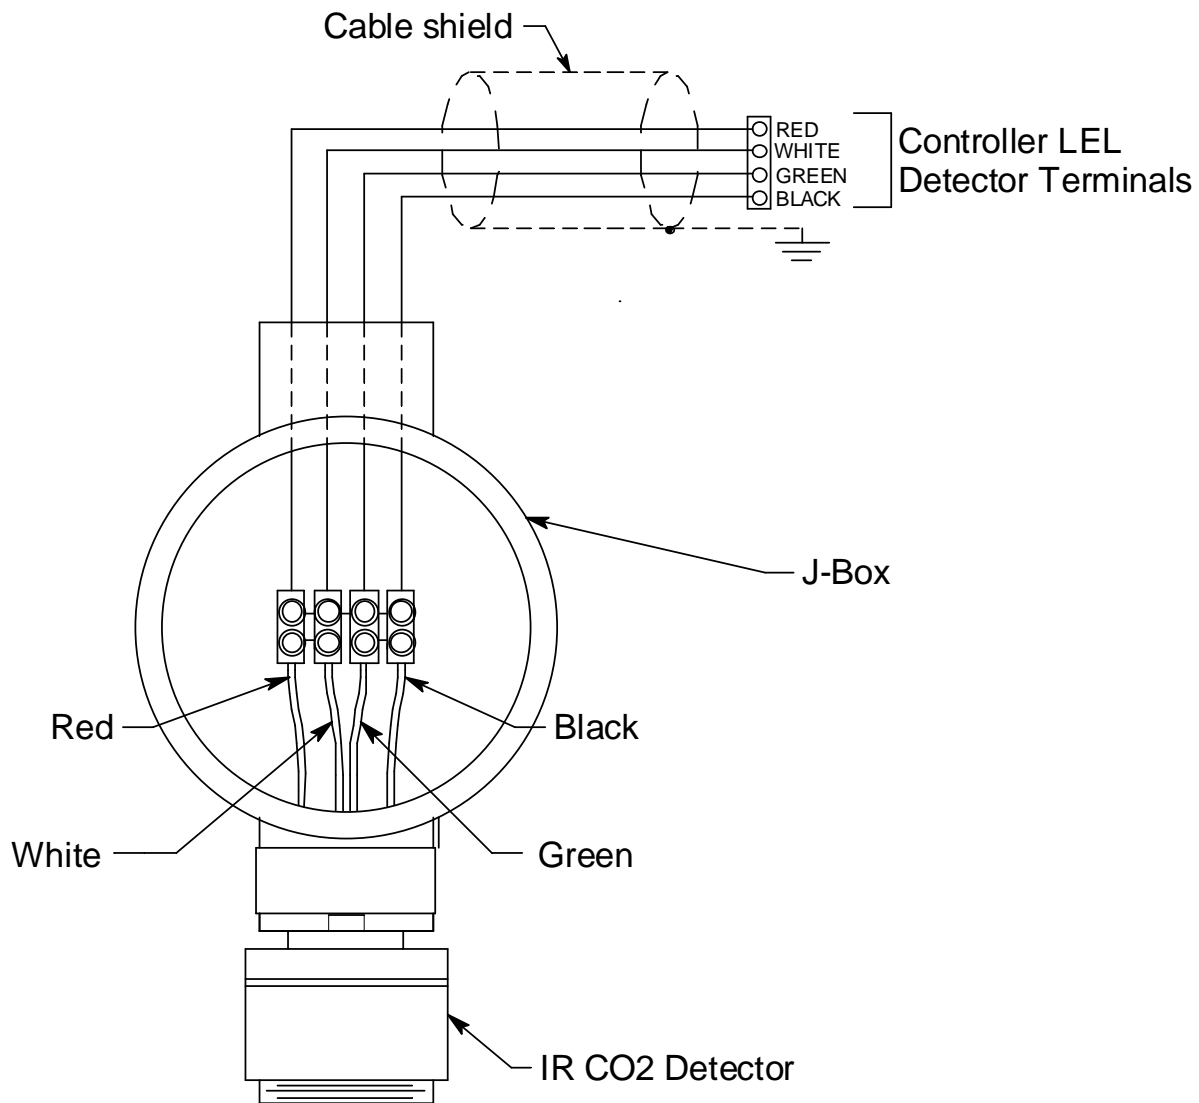

Figure 4: Wiring the CO₂ Detector to a Controller
If the detector is mounted directly to a controller, it is normally factory wired. Confirm that the detector's wires are connected to the appropriate controller detector terminals and skip to "Start Up" on page 7. See Figure 4, the controller operator's manual, and the controller's detector head specification sheet for the 61-0198RK detector for the wiring connections.
7. If the detector is installed directly on a controller, connect the detector leads to the appropriate detector terminal strip terminals. See Figure 4 on page 6 for wiring to a generic controller. See the controller operator’s manual and the controller’s detector head specification sheet for the 61-0198RK detector for wiring specific to your controller.
If the detector is installed remotely from a controller in a junction box, connect the detector leads to the terminal block the same way the old detector was wired (see Figure 4 on page 6). See the controller operator’s manual and the controller’s detector head specification sheet for the 61-1007RK detector to verify the connections to the controller are correct.